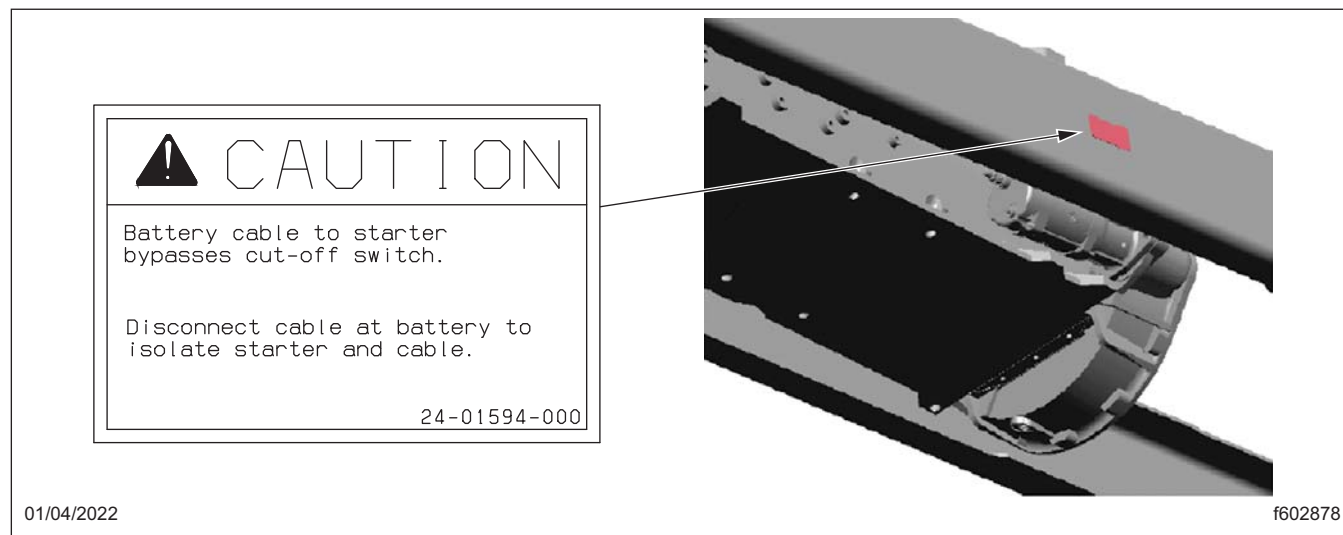

Fig. 27, Frame Rail Warning Label
2. Apply the frame rail warning label (part number 24-01594-000) as shown in Fig. 27, on the outside centerline of the frame rail, in line with the starter power leads.
NOTE: Starters can be located on the right or left depending on the engine installed. Fig. 27 shows the starter on the left side of the vehicle.